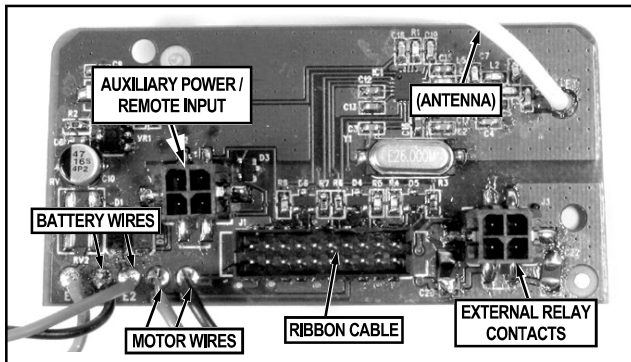

FIG. 14: RECEPTACLES LOCATED IN THE INSIDE HOUSING
4. Drilling the hole for the supplied Door Contact (labeled "DOOR CONTACT PREP" on template) is only necessary if the two white "Remote Input" wires inside the lock (see Fig. 14) will be used for Door Monitoring. If the Door Monitoring features will NOT be programmed, and the two white "Remote Input" wires will either not be used or used for a "Remote Release" only, there is NO need to drill the Door Contact hole. (**Note:** Lock programming is performed after lock is installed on the door; in addition, *these instructions will henceforth assume the Door Contact will need to be installed*).
The two white "Remote Input" wires (see Fig. 14) can be programmed as a "Remote Release" or for "Door Monitoring" (programming is performed after lock is installed on the door):
3. See Fig. 14. Before placing the inside housing onto the lock, connect the Lever Monitor Switch plugs (orange wires), plug the ribbon cable, motor wire and Auxiliary Power/Remote Input plug into their receptacles on the inside housing circuit board (these plugs and sockets fit only one way--do not force them). Seal the connectors with dielectric grease (included). Do not allow the wires to cross or lay on top of each other. Jiggle the connector cable to be sure the wire opening does not pinch wires before fastening bolts.